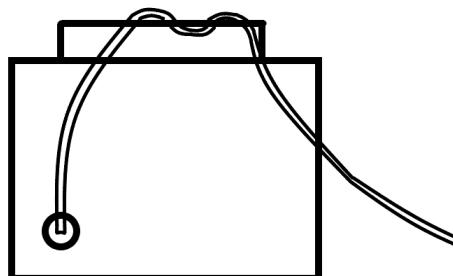

Figure 11
1. Wrap the cable around the handle 2-3 times. (Fig. 11)